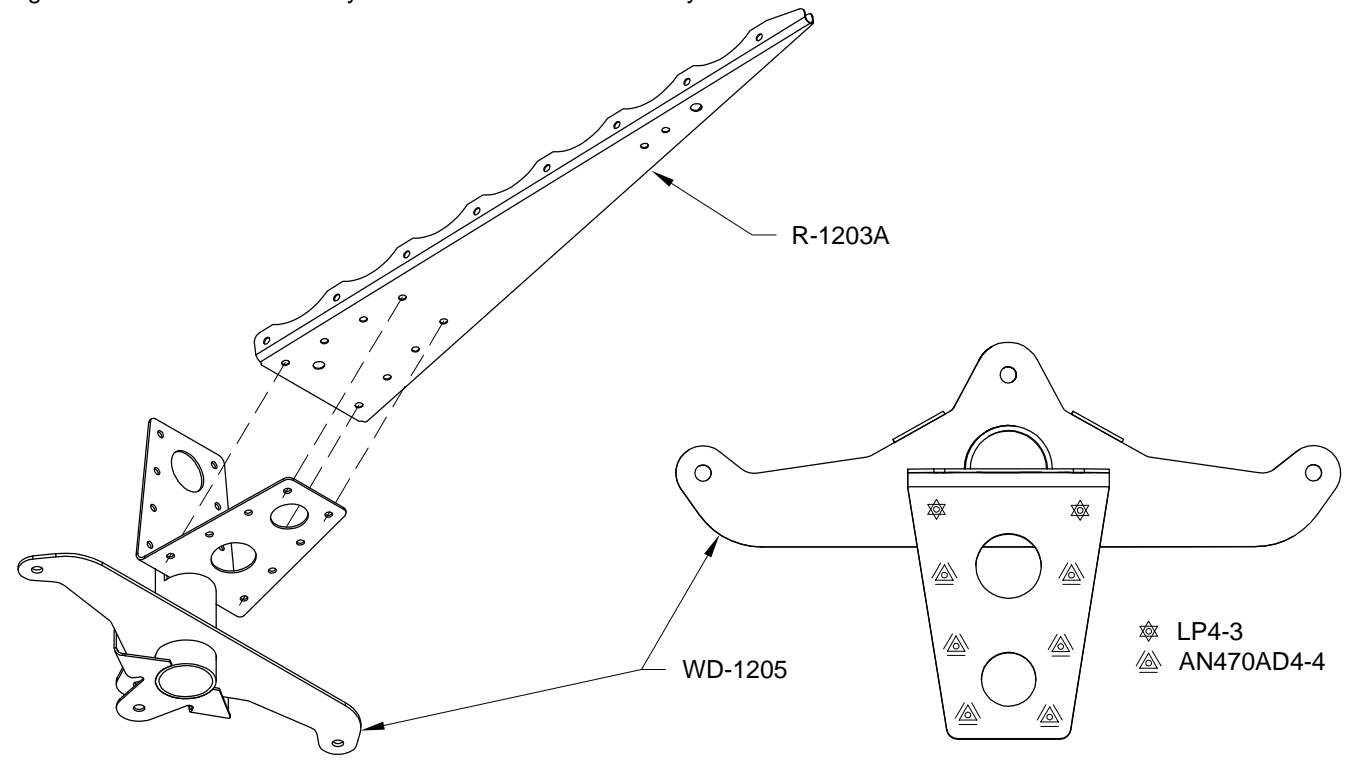

FIGURE 1: RUDDER HORN ASSEMBLY
Step 1: Rivet the R-1203A Trimmed Rib to the WD-1205 Rudder Horn. Flange orientation and rivet call-outs are shown in Figure 1. Refer to this assembly as the Rudder Horn Assembly.